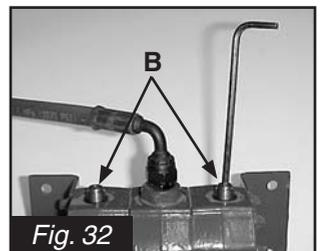

Fig. 32
2. With a 4mm hex wrench, close the set screws (B)(Fig. 32) completely. Then open 1 full turn each.